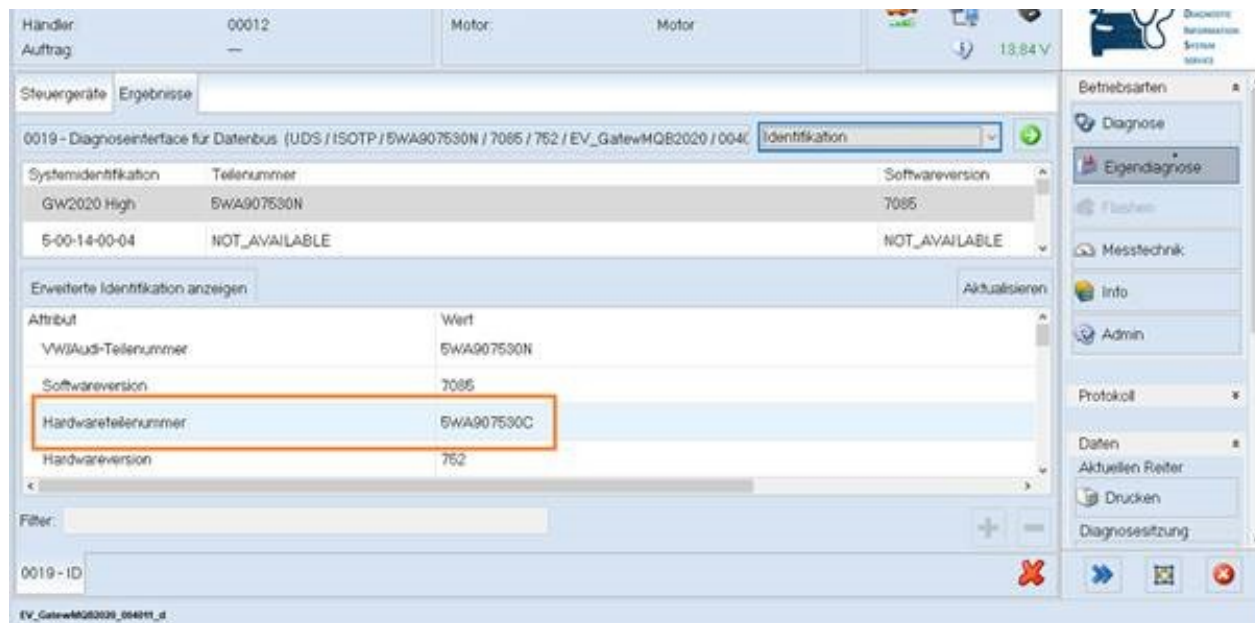

Figure 1: As an example: Checking the hardware part number of the data bus diagnosis interface control unit (diagnosis address: 0019)
- Check the hardware part number of the data bus diagnosis interface control unit (see Figure 1, orange rectangle)